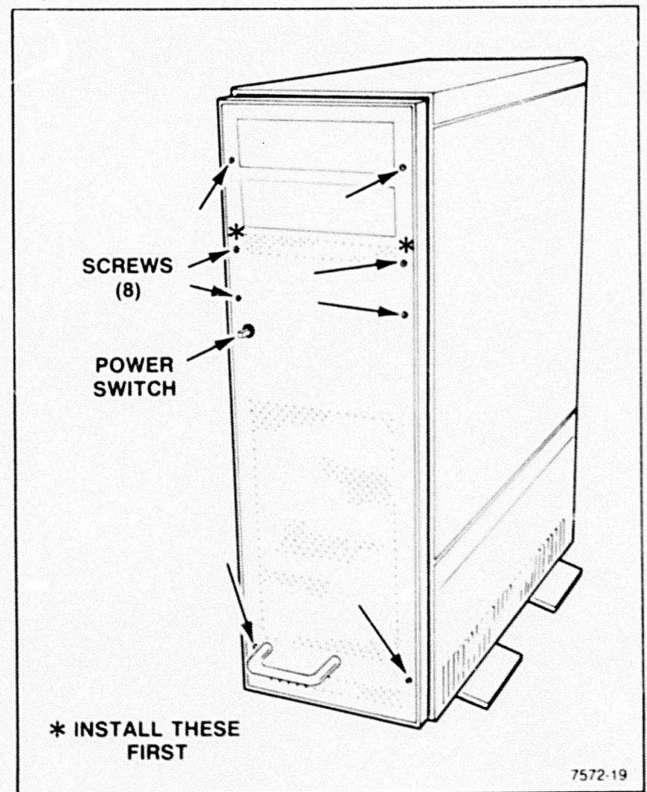

Figure 5-4. Removing the Front EMI Shield.
2. Remove the eight screws that secure the EMI shield to the CEM's chassis (see Figure 5-4).